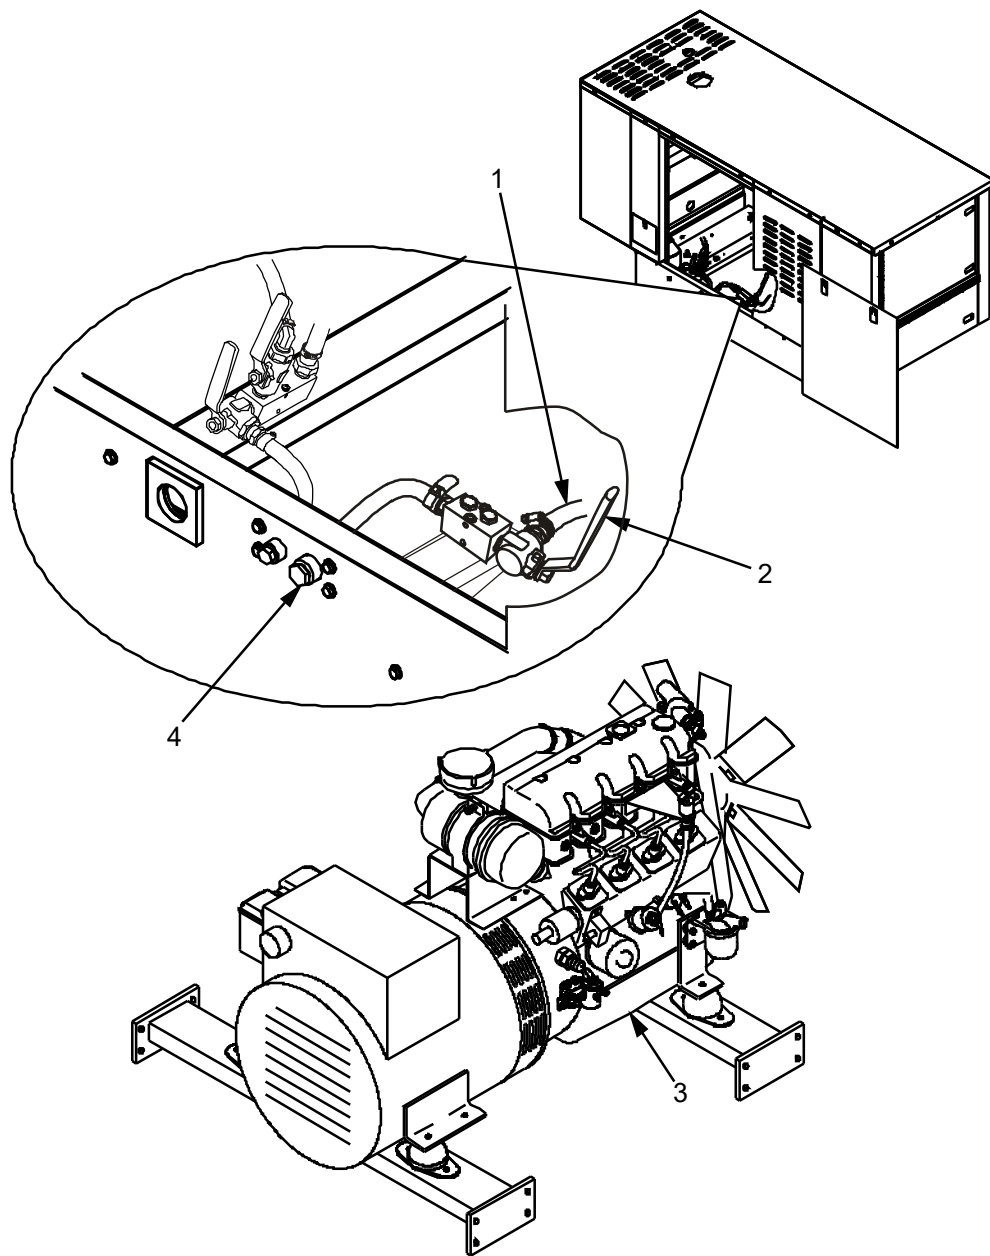

Figure 4. Oil and Fuel Preparation for Engine/Generator - Replace.
1. Drain engine oil from LUBE OIL plug (Figure 4, Item 10) as described in WP 0045.
2. Disconnect drain line (Figure 4, Item 1) from bottom of oil pan (Figure 4, Item 3) and set aside.
3. Plug oil pan (Figure 4, Item 3).
2. Remove and retain two mounting bolts (Figure 4, Item 7) and flat washers (Figure 4, Item 6) from bracket (Figure 4, Item 5) supporting the fuel line heater (Figure 4, Item 8) from the side of the engine.
3. Pull back the protective cover from fuel line heater (Figure 4, Item 9) and remove heat shrink. Mark and disconnect fuel heater electrical connections.
4. Disconnect the inlet fuel line (Figure 4, Item 4) running from fuel line heater (Figure 4, Item 8) to the fuel filter. If necessary, move fuel line heater below I-beam out of the way (WP 0066).
5. Disconnect the engine return fuel line (Figure 4, Item 2) from the fuel injector rail. If necessary, cut any strap ties securing engine return fuel line and move out of the way.